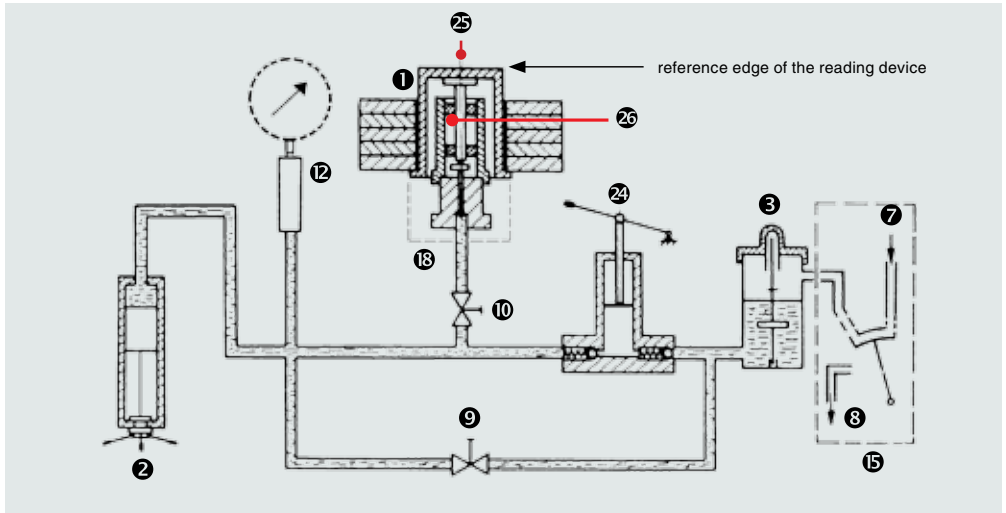

Fig. 3: schematic drawing
- In order to fill the system, turn the change-over valve ⑮ to “Admission pressure/Vordruck”.
- Generate the required pressure (up to 1,600 bar) with the hand pump ⑲.
- Increase the pressure via spindle pump ② until the piston with the weights starts floating slightly.
- Switch on the electric drive via switch ⑱.
- Readjust the pressure by turning the spindle pump until the upper edge of the base plate ⑭ (⇒ Figure 3) matches the marking on the mirror of the reading device ⑤.